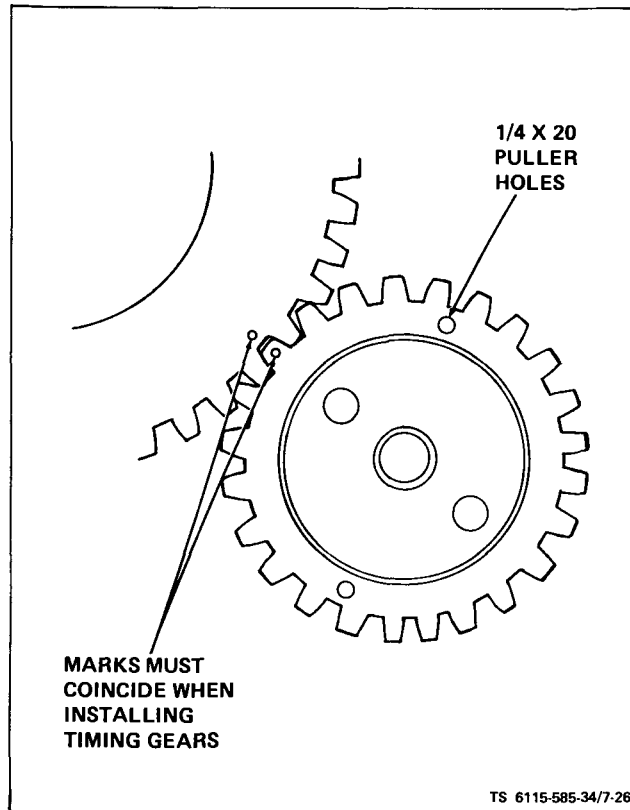
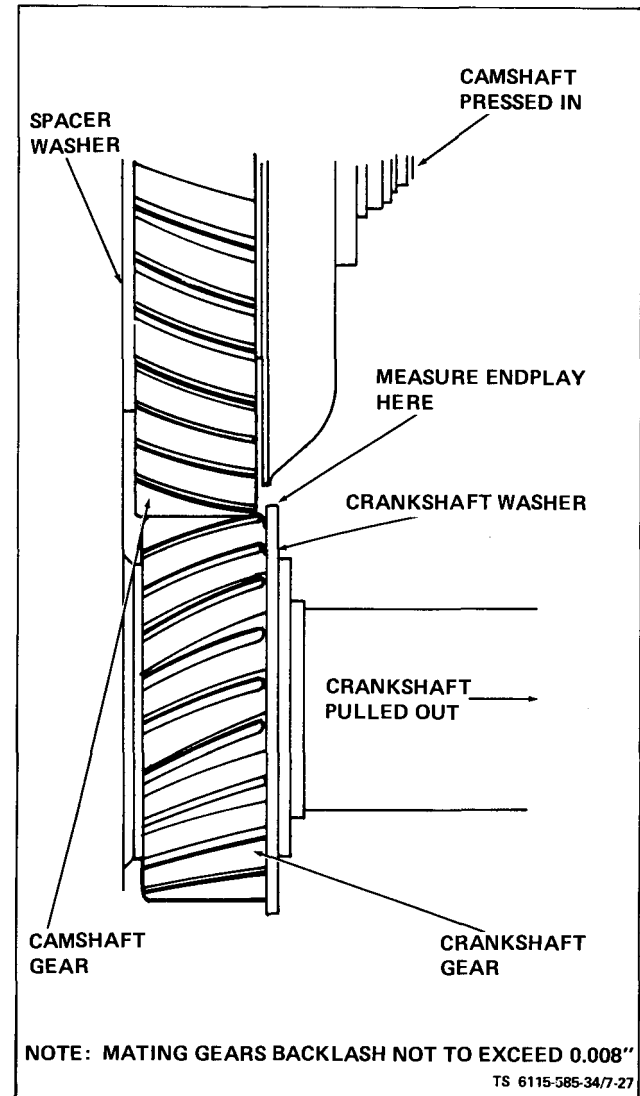

Figure 7-26. Crankshaft and Camshaft Gear Timing Marks
Figure 7-27. Timing Gear Backlash
(6) Install camshaft assembly (15) in engine making sure tappets (26) are in place on push rods. Align timing marks on camshaft gear and crankshaft gear (see figure 7-26). Check gear lash (see figure 7-27).
(7) Install oil base per paragraph 7-10.